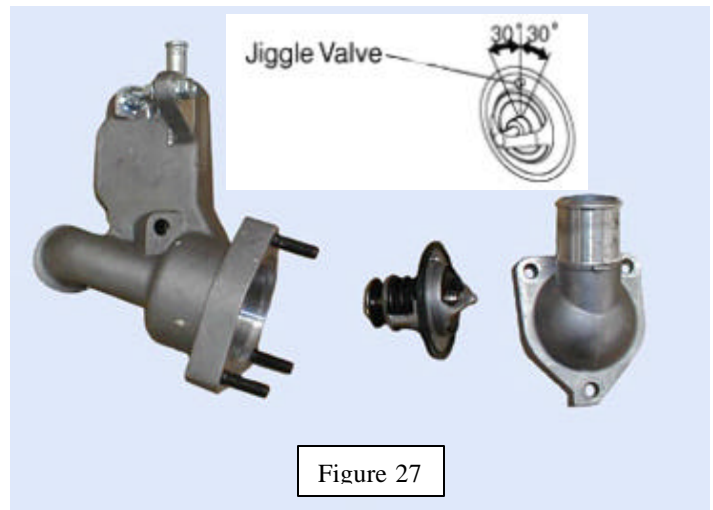

Figure 27
48. Install new supplied thermostat, and gasket into TRD water inlet housing (Figure 27).
49. Position thermostat jiggle valve in the vertical position (Figure 27).